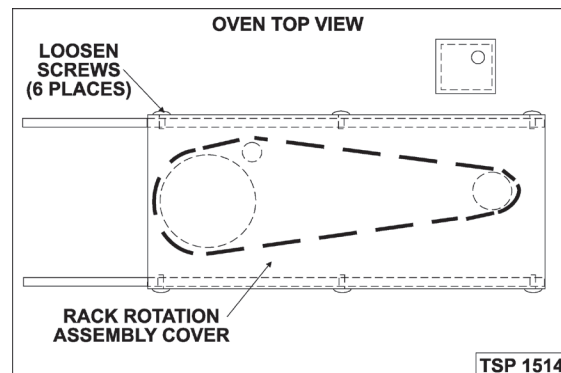

Fig. 8
- A. Gain access to the top of oven and loosen the screws securing rack rotation assembly cover (Fig. 8).